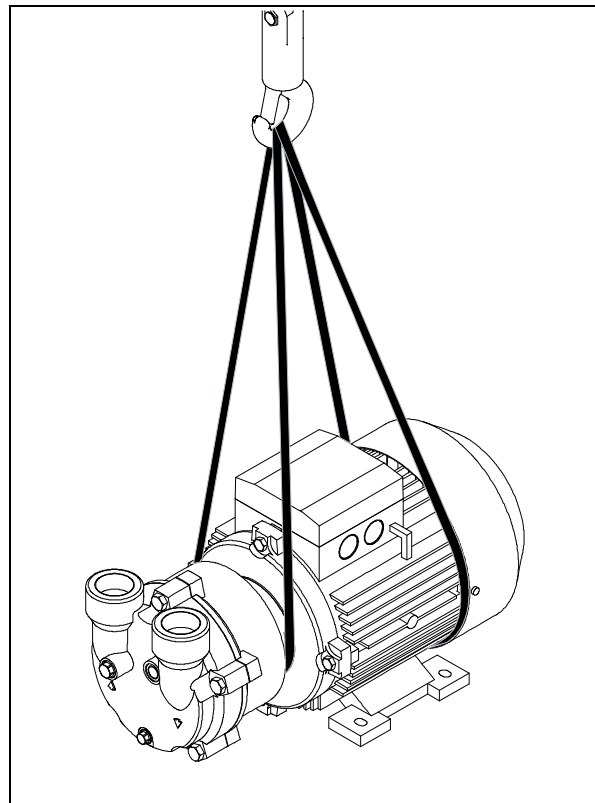

Fig. 3: Lifting points, 2BV2 ...
- Run the lifting straps under the pump casing and under the fan guard (Fig. 3, page 13).